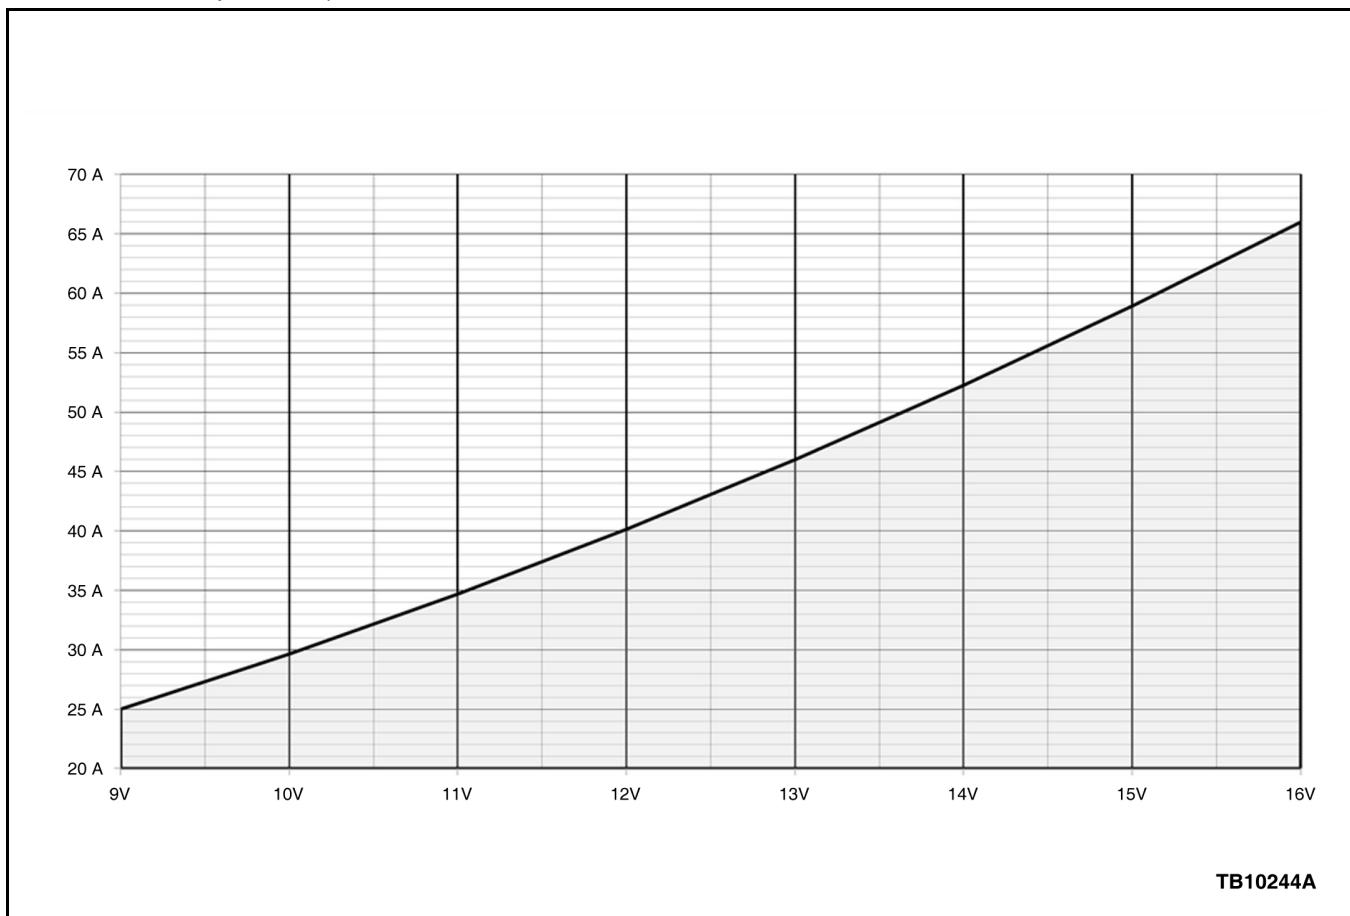

Figure 1 - Article 12-1-14
- d. Compare recorded readings to the chart. (Figure 1) Does your measured reading for voltage and amperage lie within the shaded area of the graph shown? (Figure 1)
- (1) Yes - Do not replace the cooling fan. Fan operating as intended. Proceed to Step 5.
- (2) No - Replace the cooling fan and shroud assembly. Proceed to Step 5.